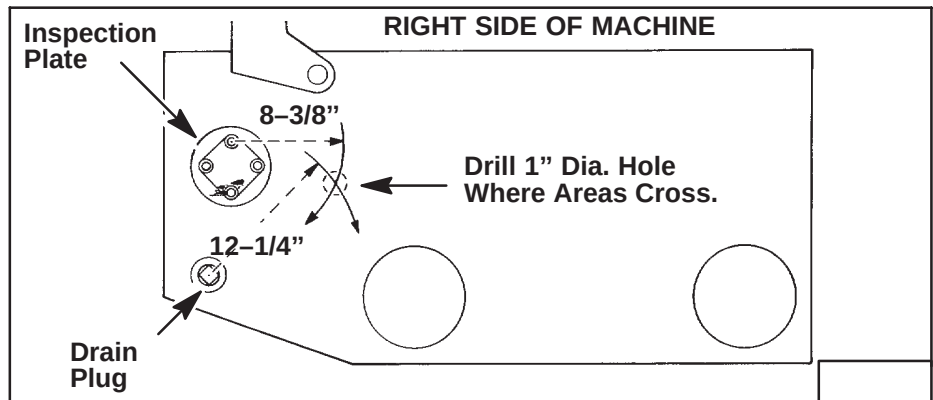

Fig. 1-21 Locating Fuel Adjustment Hole (Petter)
NOTE: When loader is not equipped with a hole in loader side wall at fuel adjustment screw location see Fig. 1-21 for hole drilling instructions. The hole will make fuel adjusting easier.
3. Put a screw driver into hole (Fig.1-21). Turn in to reduce fuel supply. turn out to increase fuel supply.